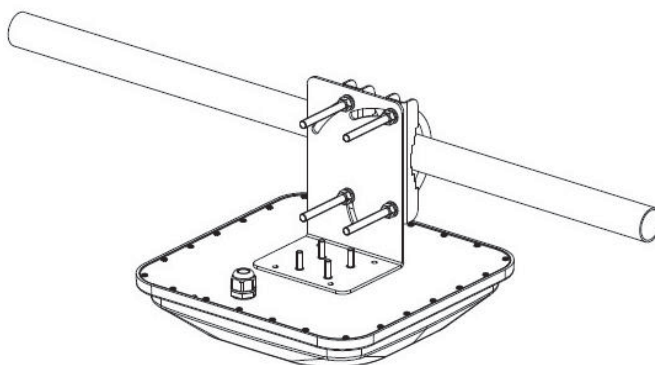

Figure 3-2 Horizontal pole installation
(2) Using two U-bolts and two toothed installation bracket to fix the reader on vertical rod through the L-bracket, refer to Figure 3-2.